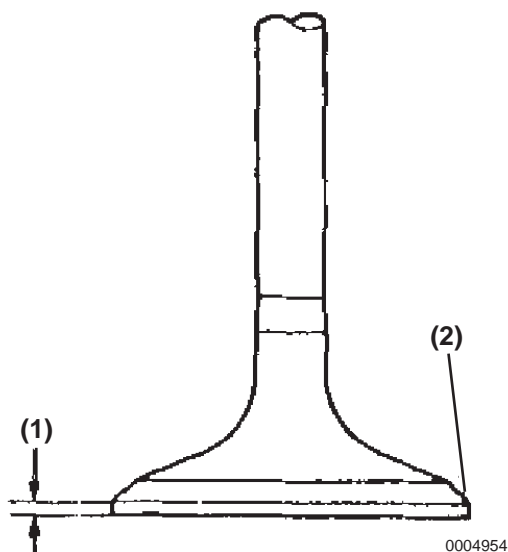

Figure 5-29
6. Check the margin thickness of valve head (**Figure 5-29**).